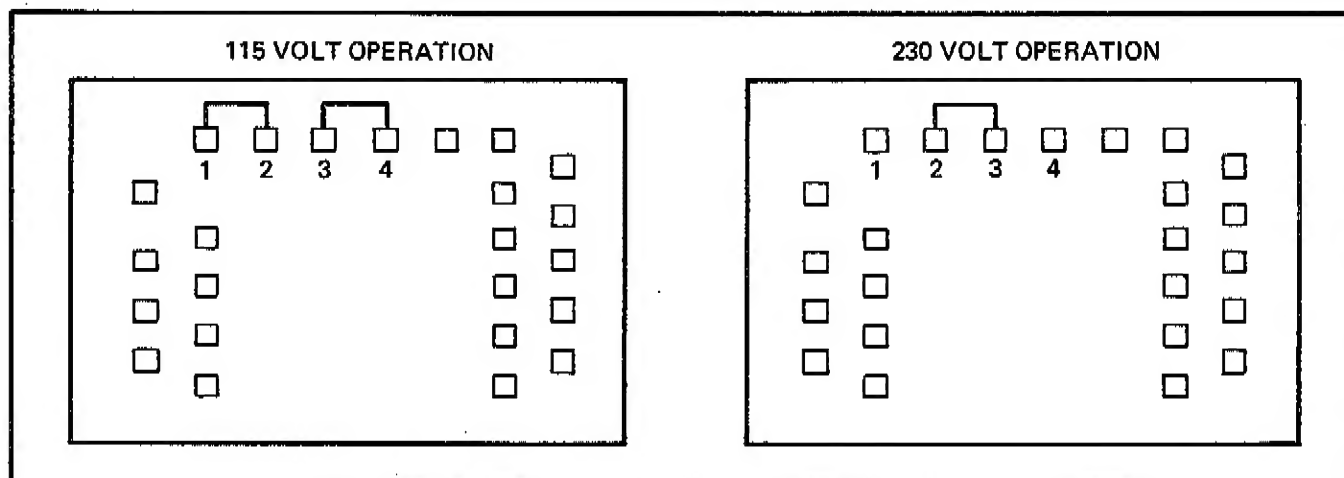

Figure 4-4. 115/230 VOLT CONVERSION
- Orient the instrument and perform the appropriate electrical connections as shown in Figure 4-4.